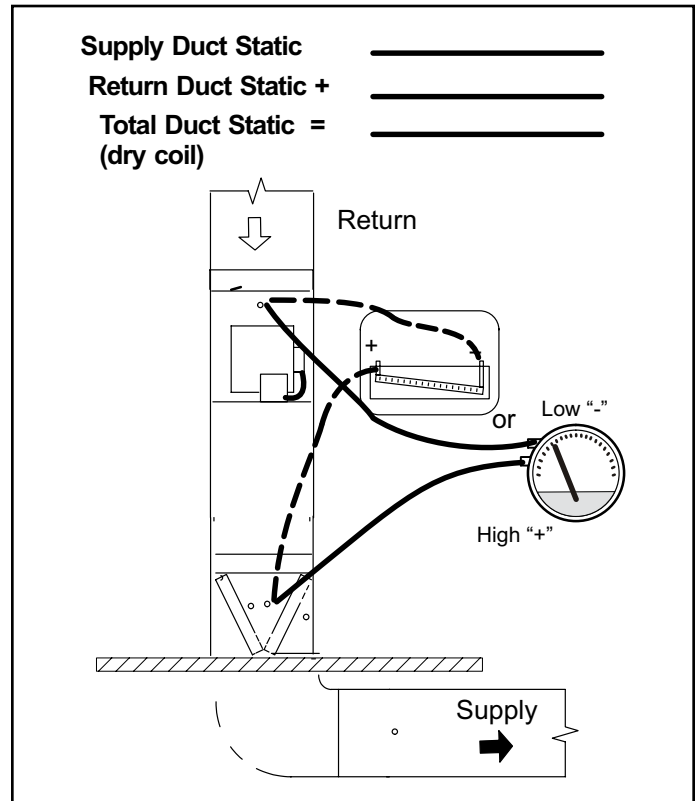

Figure 51. Static Pressure Test
1. Tap locations shown in Figure 51.